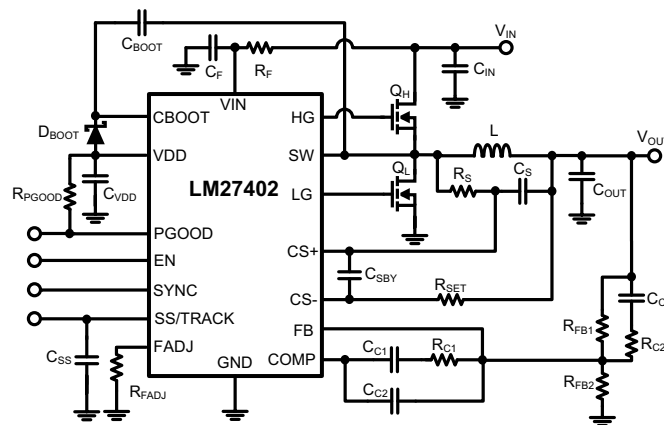

Figure 26. Typical Application Circuit
As with any DC/Dc converter, numerous tradeoffs are required to optimize the design for efficiency, size, or performance. Such tradeoffs are highlighted throughout the following discussion. To facilitate component selection, the circuit shown in Figure 26 may be used as a reference. Unless otherwise indicated, all formulae assume units of Amps (A) for current, Farads (F) for capacitance, Henries (H) for inductance and Volts (V) for voltage.
Figure 26 shows R_F and C_F acting as an RC filter to the VIN pin of the LM27402. The filter is used to attenuate voltage ripple that may exist on the input rail particularly during high output currents. The recommended values of R_F and C_F are 2.2 Ω and 1 μF , respectively. There is a practical limit to the size of R_F as it can cause a large voltage drop if large operating bias currents are present. The VIN pin of the LM27402 must not exceed 150 mV difference from the input voltage rail (V_{IN}).